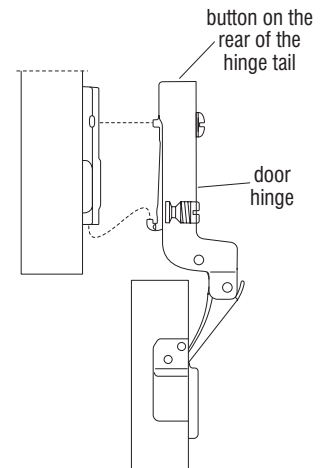

Figure 14 - Door Removal
19. To **disassemble door** from cabinet, press the button on the rear of the hinge tail inside the unit. Pull the door slightly forward to disengage the hinge connection. Repeat for the other door hinge to remove the door from the unit (Figure 14).